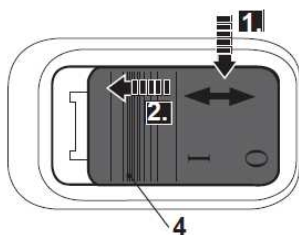

Fig. 16: Off-position
1. Press the rear part of the on/off switch (4) and slide it forward, until the switch locks in its on-position (Fig. 16).